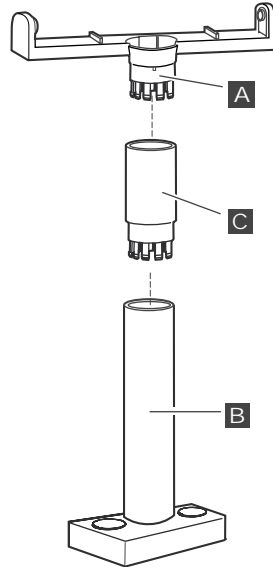

Figure 66. Connecting the character/graphics display post
1. Connect the display ( **A** in Figure 66) to the post ( **B** ). If required, add the extension post ( **C** ) between **A** and **B** .